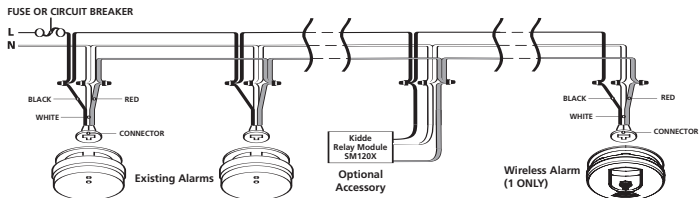

FIGURE 5
- Figure 5 illustrates interconnection wiring. Improper connection will result in damage to the alarm, failure to operate, or a shock hazard.
4. Plug the AC Quick Connector into the back of the alarm (see Figure 5), making sure that the locks on the connector snap into place. Then push the excess wire back into the electrical box through the hole in the center of the mounting bracket.